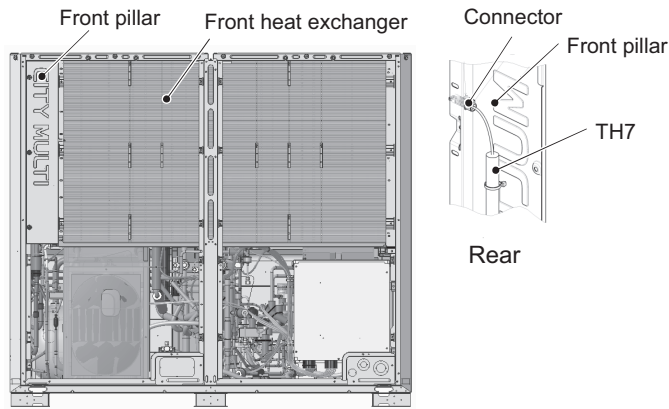

Figure 14
- (12) Remove the front pillar by unscrewing the 7 screws. (See Figure 14.)
- (13) Disconnect the TH7 sensor holder from the front pillar. (See Figure 14 Rear.)